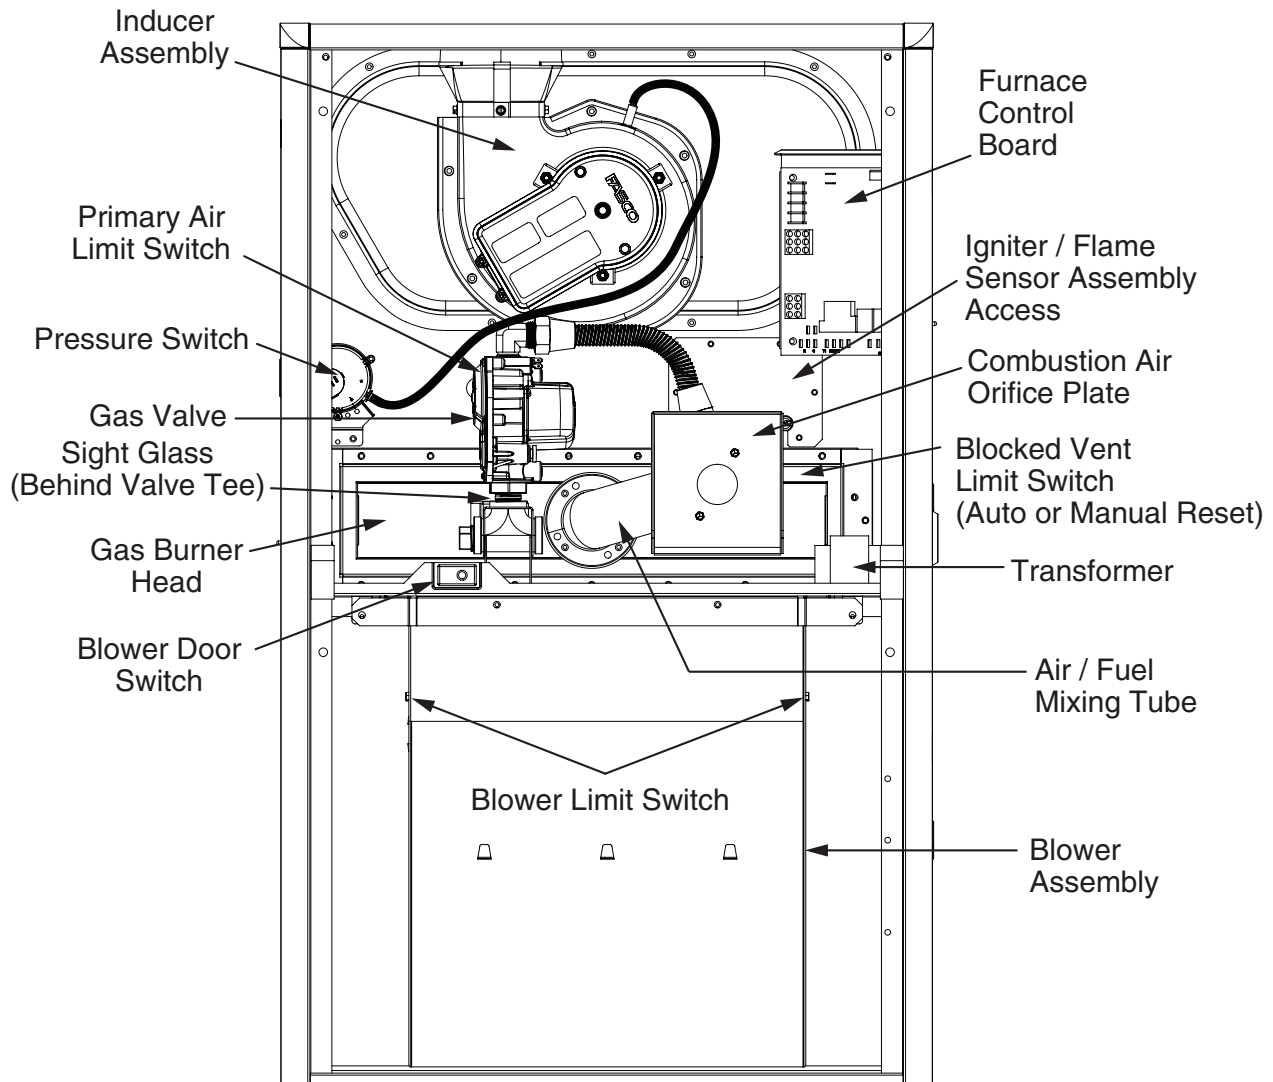

Figure 17. Component Locations
Cleaning of Flame Sensor - If the flame sensor is suspect for Loss of Flame fault code, the sensor can be cleaned to see if that remedies the issue. Follow steps 1 - 10. See Figure 17, \(page 19\) for component location.
- If the inducer blower is operating and items above have been verified, check the limit switch circuit and reset if necessary. See Figure 17, (page 19) for component location.
- If the furnace still doesn't operate, check the flame roll-out switch and reset if necessary. See Figure 17 for component location.
The descriptions below are various functional components that affect the operation and shutting down of this furnace. Some of these components and their locations are shown in Figure 17. If any component of the furnace must be replaced, use only factory authorized replacement parts specified in the Replacement Parts List.